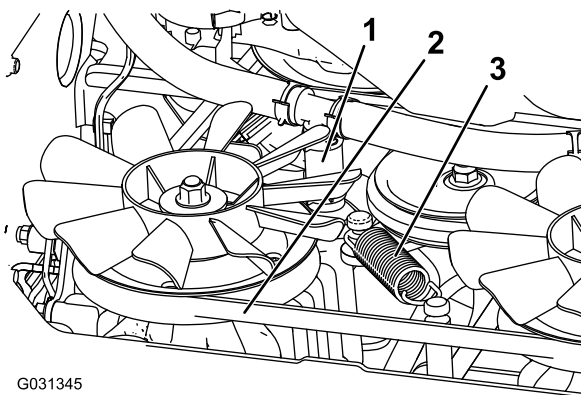

Figure 74
5. Remove the lower hydraulic hose (Figure 74).
6. Remove the tension spring (Figure 74).
7. Remove the transmission belt from the clutch and clutch stop (Figure 74).